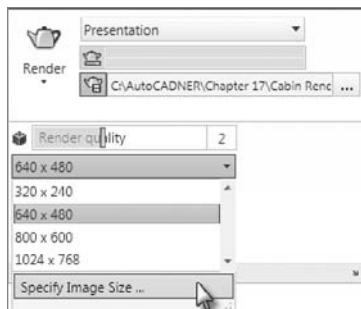

FIGURE 17.37 Set the output size.
6. Expand the Render panel, expand the Render Output Size drop-down list, and then choose Specify Image Size (see Figure 17.37) to open the Output Size dialog box.